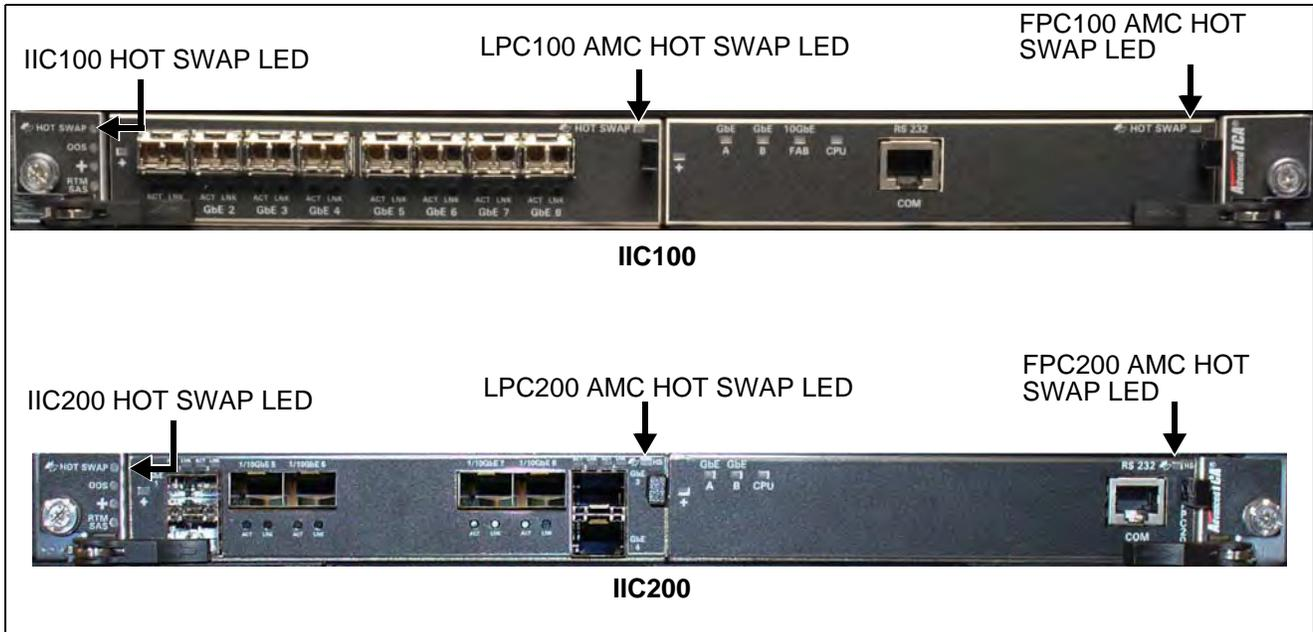

Figure 5.24 - G10 IIC Hot Swap LEDs
3. Wait until the IIC Hot Swap LED is solid blue (Figure 5.24). This indicates the card's OS has powered down completely.